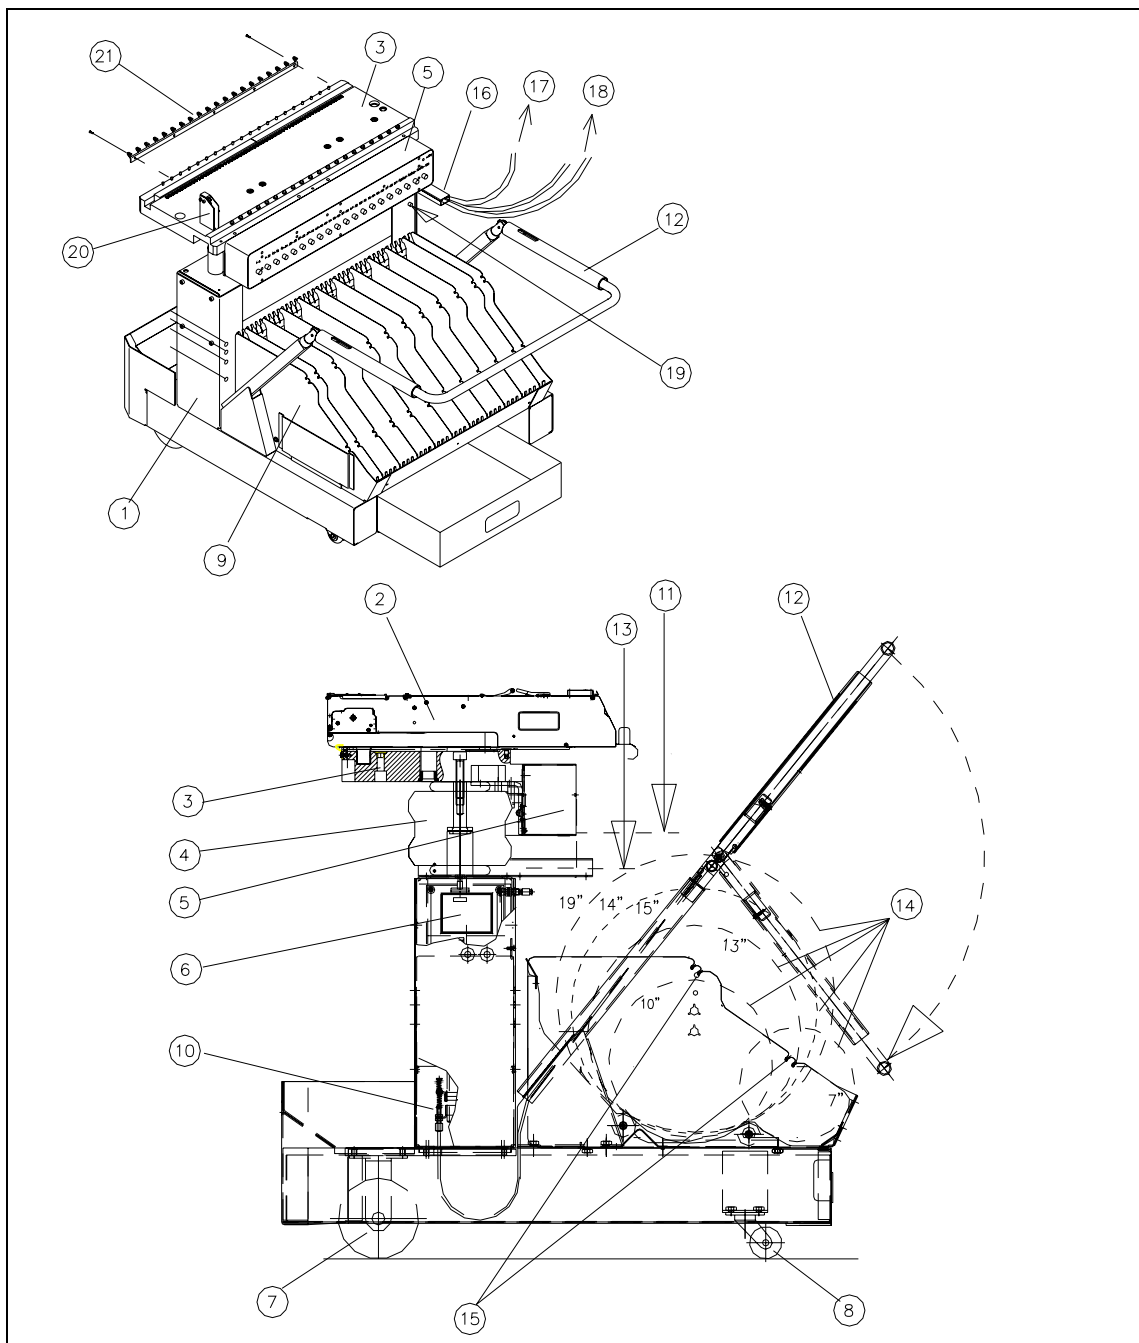

Fig. 9.4.1 Overview: Layout and Exchangeable Parts of the Movable Changeover Table
Key to Fig. 9.4.1:
- Place the feeder modules incl. the tape wheel and Knockout spindles (see Fig. 9.4.1 -> 2, 14, 15) on new the component table in accordance with the specifications for set-up optimization, insert the tapes and check the allocation of component / track (component bar code scanner).